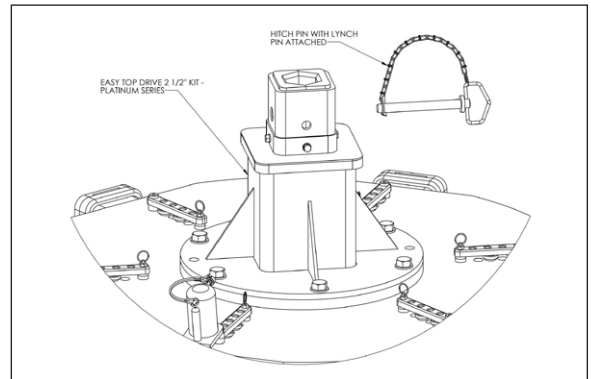

Figure 16. Hitch Pin With Lynch Pin Attached
21. Attach the Easy Drive Top [K-MM0369] of the Six Shooter to the Auger Drive, securing it with the provided Hitch Pin With Lynch Pin Attached [P-MM0038]. See Figure 16.